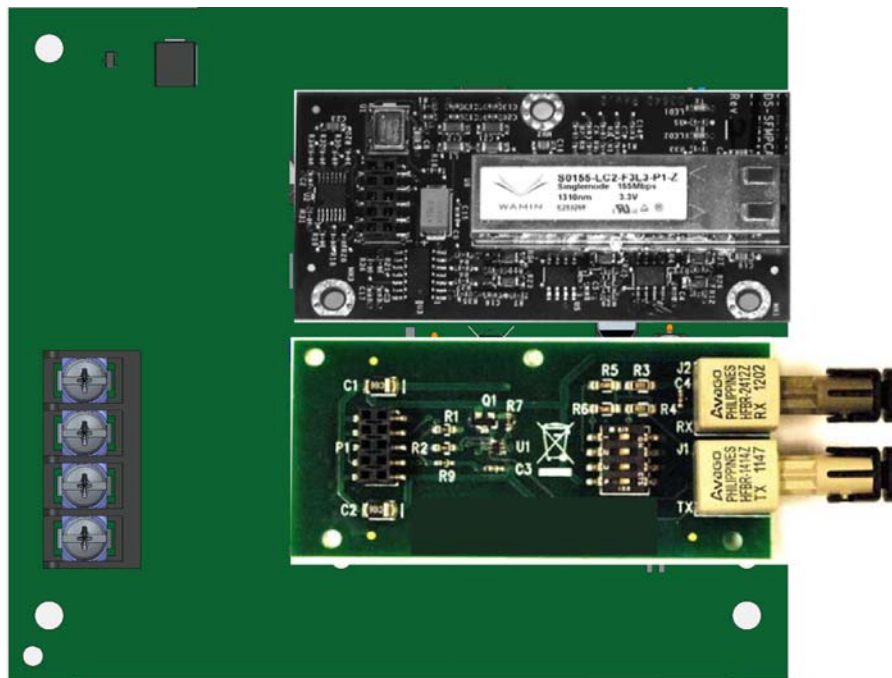

Figure 5-4 SK-NIC with Fiber Loop Modules
Each fiber loop module can Transmit (TX) and Receive (RX) fiber-optic cable connecting to the SK-NIC. Up to two fiber loop cards can be added to the SK-NIC, and both cards may be combined in the same configuration. See Figure 5-4.